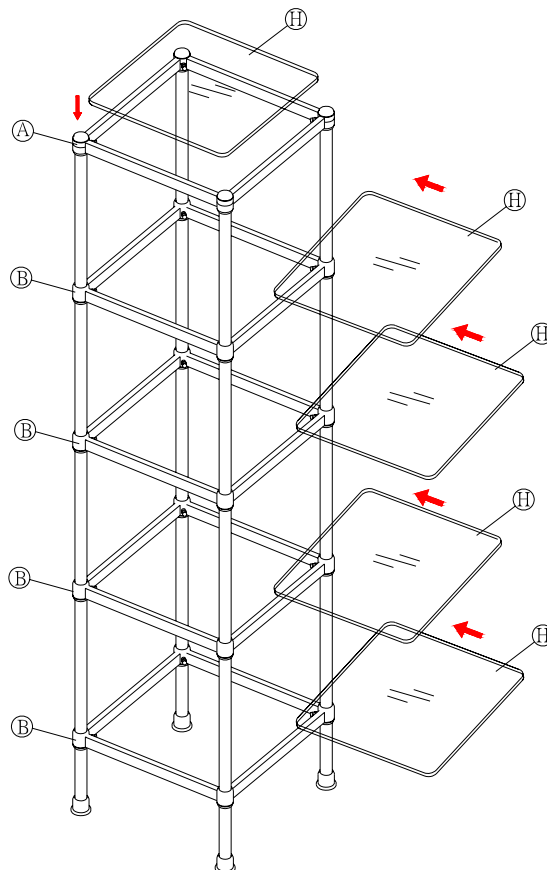

Fig. 5
7. Hold the glass shelves (H) at a slight tilt and insert them to the frame. Gently rest the shelves onto the shelf pegs (Fig. 5).